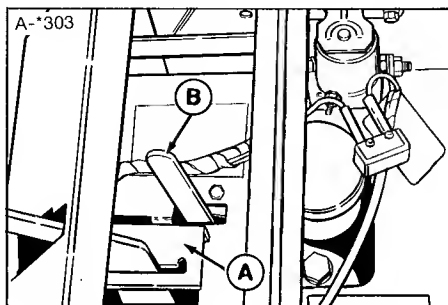

Figure 30. Control Lever Quadrant
5. The control lever quadrant (A, figure 30) is mounted with slotted holes so it can be adjusted. Loosen the two self-tapping screws and move the quadrant so the lever is in neutral notch. Then tighten the two screws.
3. Place the transmission engagement lever (B, figure 30) in forward position (disengaged position).